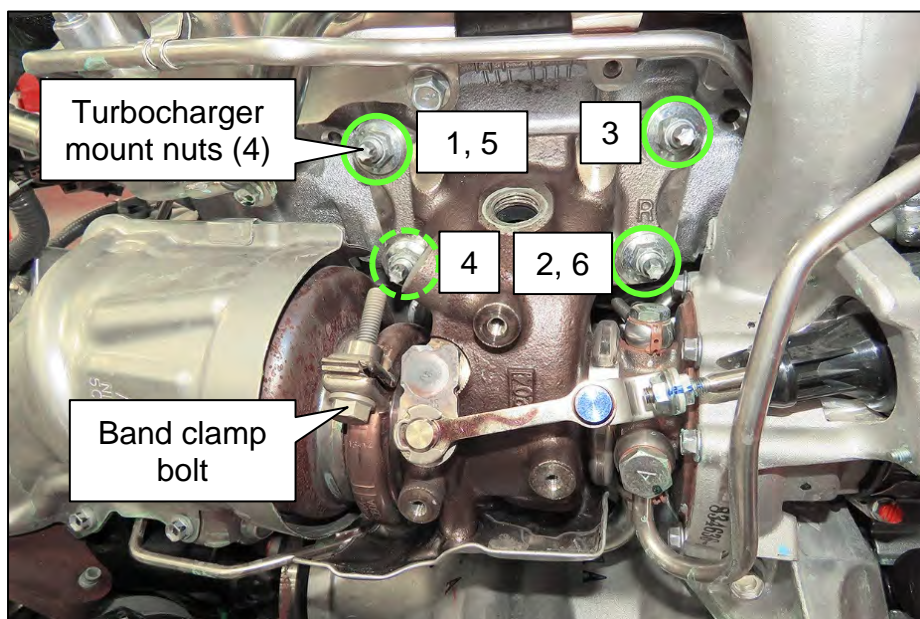

Figure 59
90. Install all four (4) turbocharger mount nuts, and then torque them in the order (from 1 to 6) shown in Figure 59.